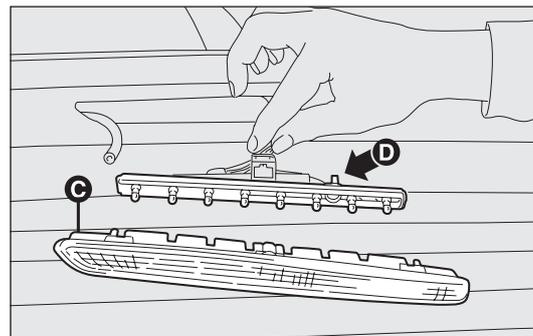

fig. 177
THIRD BRAKE LIGHT fig. 177
- press in the catches and remove the lens unit C-fig. 177;
- press in the tabs D-fig. 177 and remove the bulb holder;